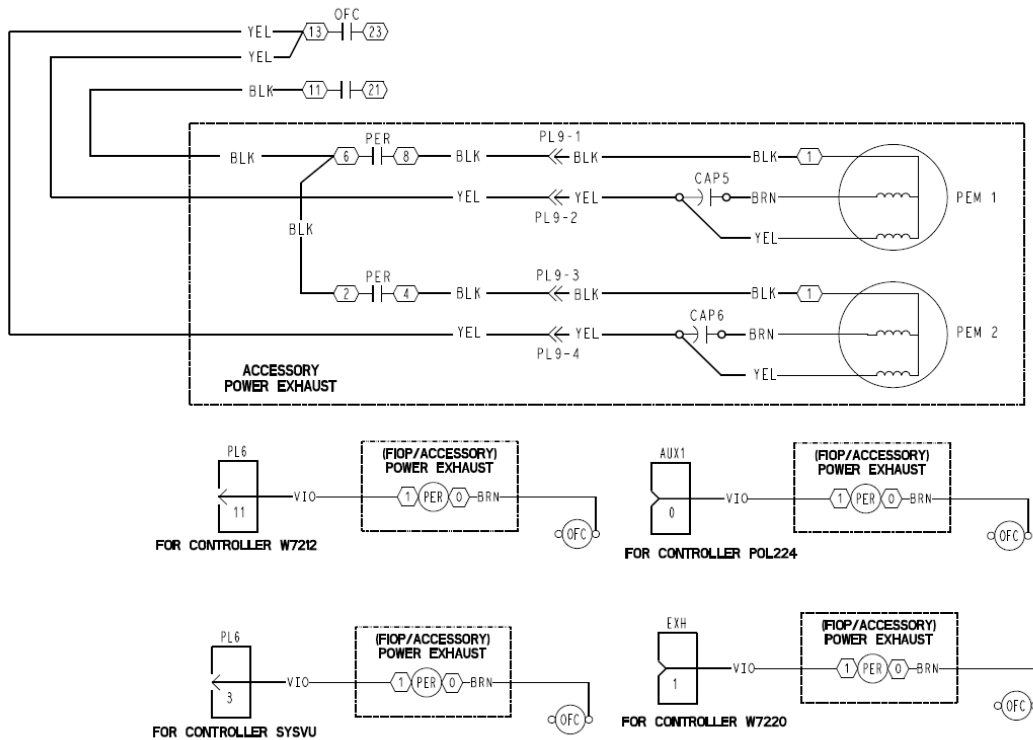

Fig. 8 — Power Exhaust Wiring Diagram
5. Install wiring harness (50HEMRAX-A00) in the control box as shown in Fig. 5-7. Refer to Fig. 8 for point to point connections. Wiring harness label near terminals should match connection point in control box.